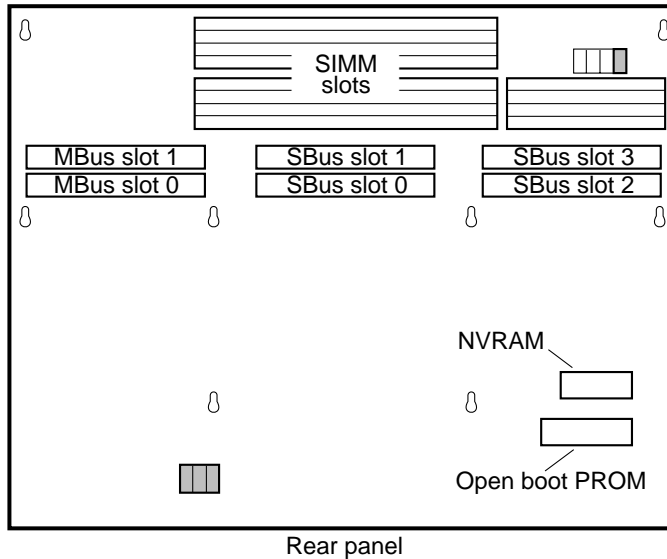

FIGURE 7-5 Location of the NVRAM on the MLB
- 6. Locate the NVRAM chip on the MLB. See FIGURE 7-5.**